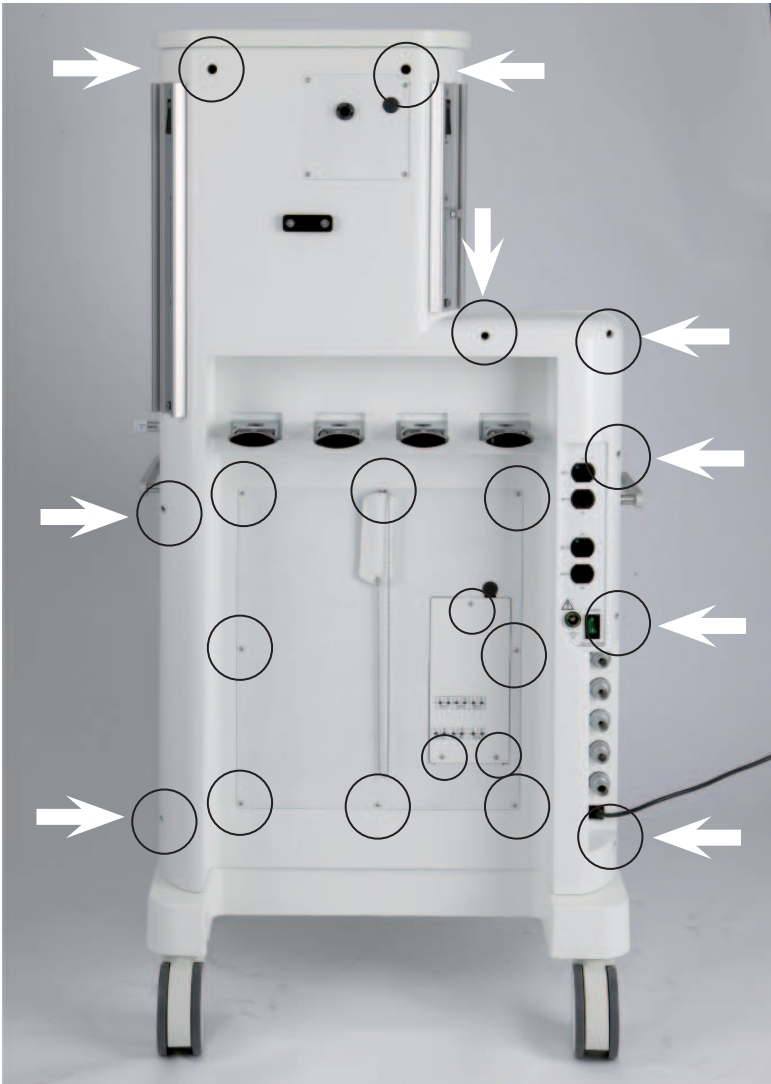

Figure 51 - Rear of Machine
5. Remove the back cover - Remove all pipelines and cylinders before removing the screws shown in Figure 51.